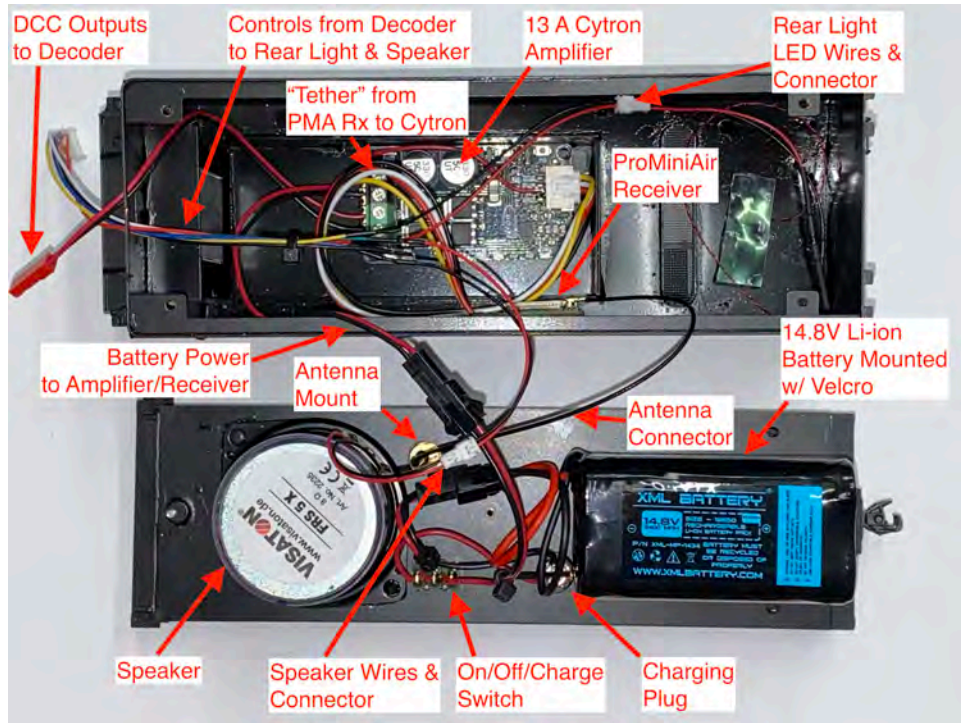

Figure 16: ProMiniAir receiver integration with battery power, a Cytron H-bridge “amp,” and antenna
- The excellent Cytron MD13S high-power (13A continuous) H-bridge motor driver may be purchased here, as shown in Figure 16. It uses “locked-antiphase” modulation requiring the ProMiniAir to output logic-level DCC on DCC+ and a “high” output on DCC-. We activate this output scheme by setting CV253 to 1, the default.